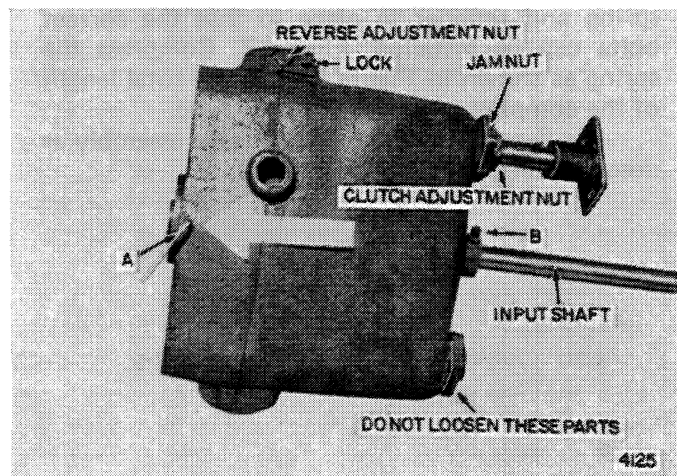
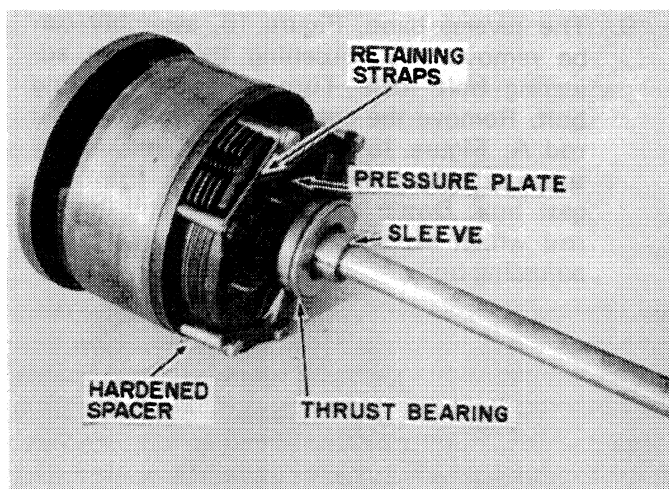
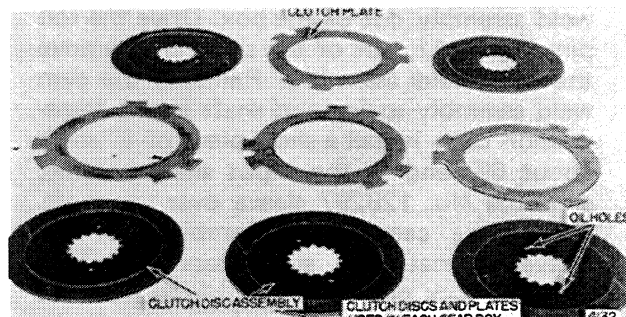

FIGURE 9
FIGURE 10
FIGURE 14
1. Loosen the set screw B, Figure 9, clean the paint off the input shaft and remove the collar. Loosen the socket head set screw at A.
2. Tap the end of the input shaft, Figure 9, until the gear box cover moves out of the gear box. The entire planet carrier assembly can not be pulled out of the gear box, Figure 10. Check to see if there were any shim washers between the end of the spacer and the bearing in the gear box.
3. Remove the shim washers, if any, the phenolic spacer, the thrust bearing and the hardened spacer from the input shaft, Figure 10. Remove the pressure plate retaining straps and bolts and the pressure plate and bearing assembly clutch discs and clutch plates can all be removed. Note the location of the pressure plate return springs on the roll pins and the orientation of the pressure plate retaining straps.
6. Inspect the clutch discs and clutch plates, Figure 14, for wear or damage. Install the parts in this order — clutch disc next to carrier, then a clutch plate, continue installing alternate parts ending with a clutch disc. Install all clutch discs so that the oil holes align. Install the return springs on the roll pins. Install the hardened spacer and the clutch pressure plate assembly bolting it in place with the six capscrews and retaining straps, Figure 10, (be sure to orient the retaining straps properly at reinstallation). Check the clearance between the pressure plate and the stack of clutch discs and plates. Make sure the retaining straps are perfectly flat. The clearance should be .90 to .180 inch. Replace worn discs if the clearance exceeds .200 inch. Install the thrust bearing with the wide side of the outer race toward the cam. Install the phenolic spacer and any shim washers that were between the phenolic spacer and bearing.
13. Place the collar over the input shaft and pull up on the shaft; at the same time slide the collar in against the bearing and lock it. Lock the set screw in the gear box cover, Figure 9.
2. Remove the brake band, output shaft and the brake drum assembly, Figure 9.